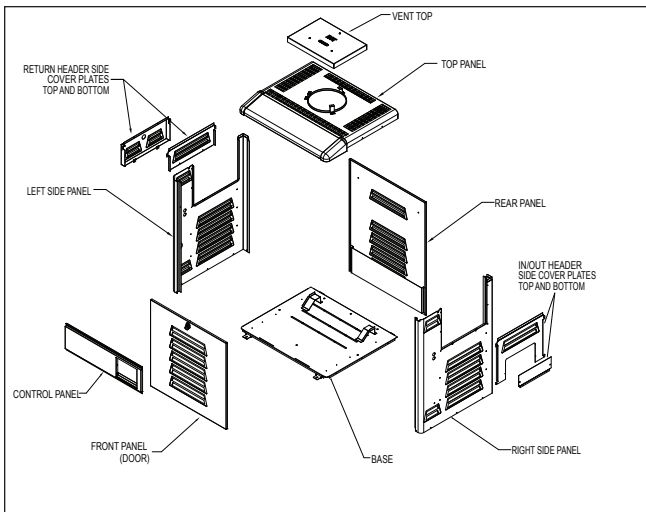
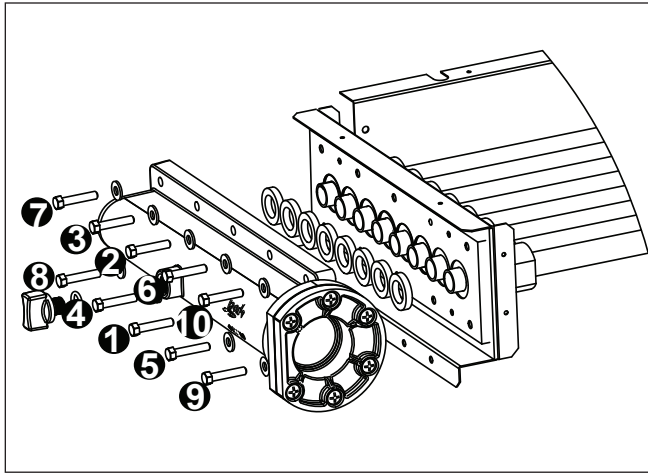

Figure 10. Legacy Model LRZ Panel Identification
Figure 11 Header Bolt Tightening Sequence
3. Remove the I/O header side cover plates, top and bottom. See Figure 10.
4. Remove the return header side cover plates, top and bottom. See Figure 10.
9. Remove the ten (10) bolts and washers from the inlet/outlet header and remove the header from the tube assembly.
10. Remove the ten (10) bolts and washers from the return header and remove the header from the tube assembly.
13. Thread on the ten (10) bolts and washers and hand tighten.
15. Thread on the ten (10) bolts and washers and hand tighten.
16. Use a torque wrench to tighten the bolts on each header to 4 ft-lbs. The bolts must be tightened in the sequence indicated in Figure 11.